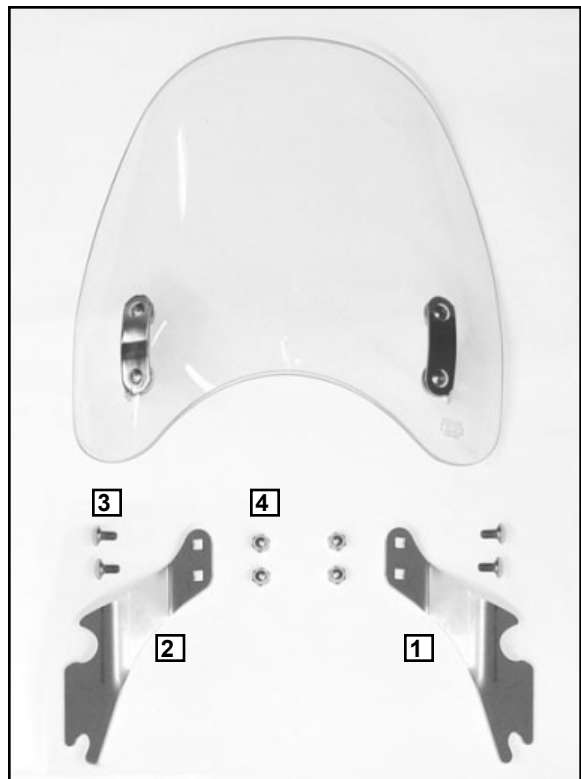

Figure 1.
1. On all model motorcycles with covered forks, adhere the Burr Barrier (10) to the upper triple clamp. **Figure 1.**
3. If your Spider Bracket (9) has different length studs, **the longer one goes on the top.**